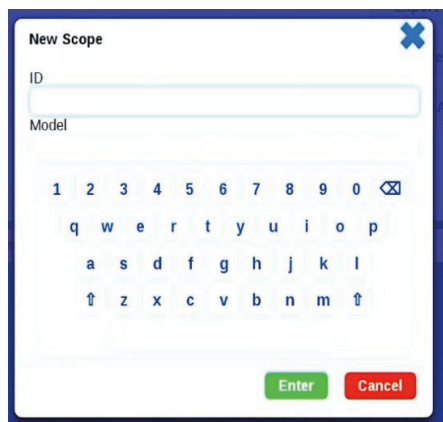

Fig. 48
3. Enter Scope ID under “ID” by using the keypad on the screen (Fig. 48).